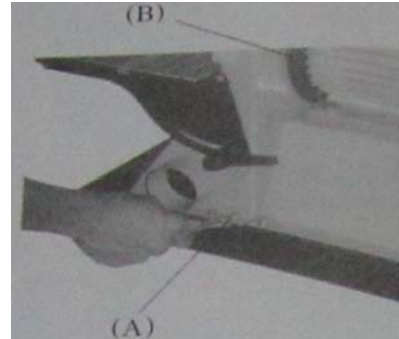

Fig. 7: Loosen the work table
Step 2: Loosen the four screws (A / B Fig. 7) located on the right and left lids.